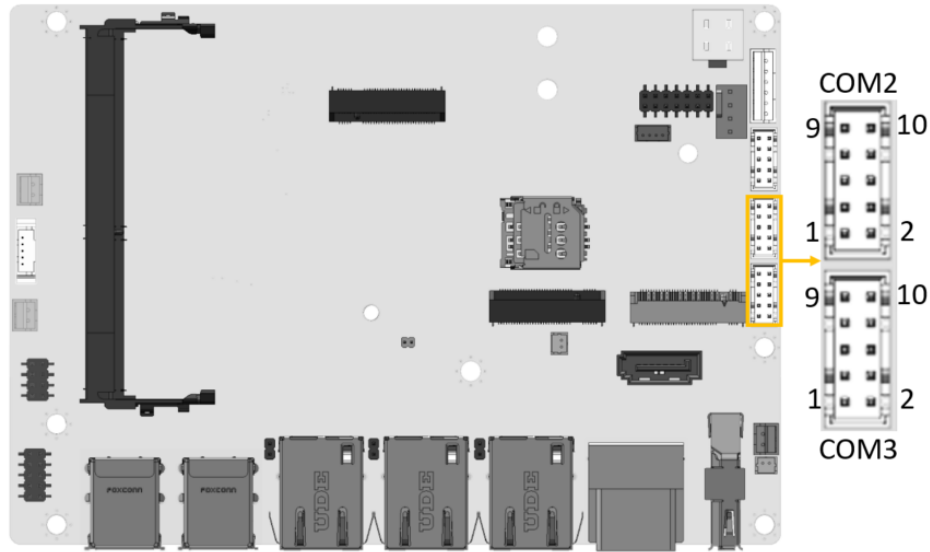

Figure 3-16: RS-232/422/485 Connector Location
- CN Location:** See **Figure 3-16**